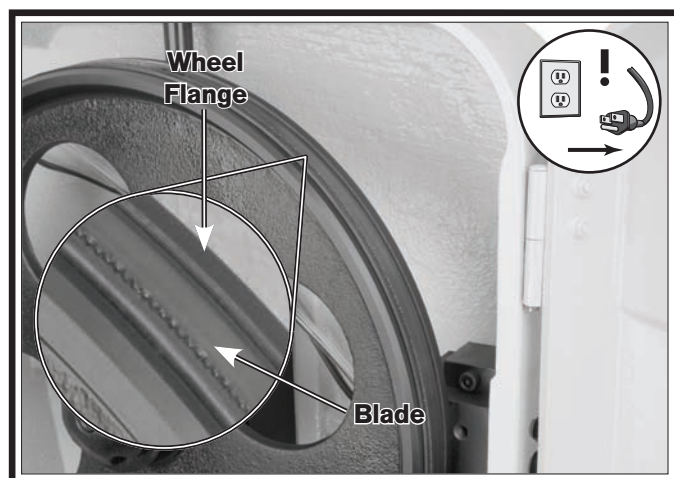

Figure 14. Back edge of blade next to wheel flange.
5. Position the back edge of the blade so that it is next to, but not against, the flange of the top wheel (see **Figure 14**).